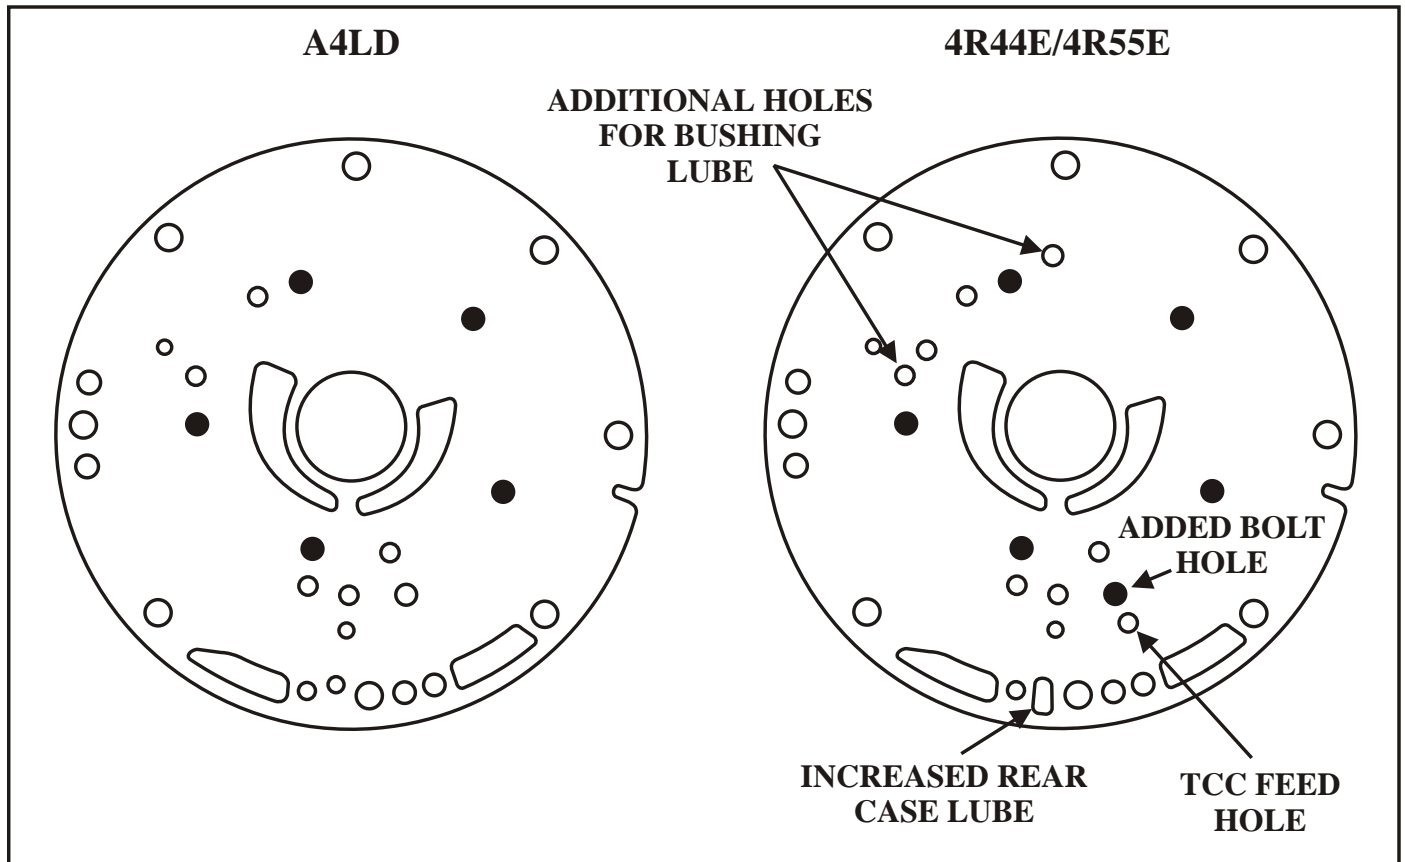

Figure 3
- (3) PUMP PLATE - The 4R44E/4R55E pump plate has two additional holes to accommodate the added channel in the pump body, an added bolt hole for the added bolt, an elongated lube hole, and the TCC feed passage was relocated. Refer to Figure 3.